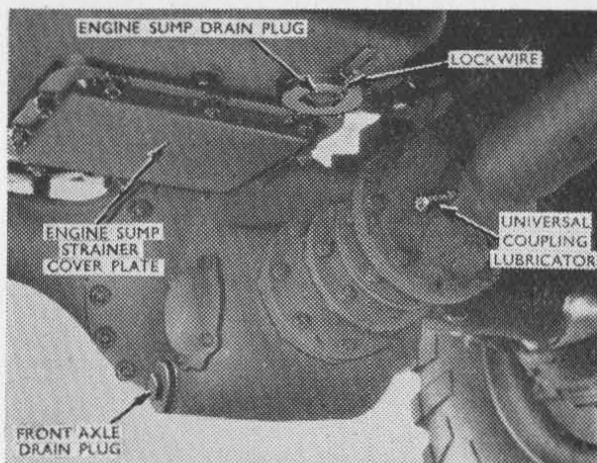

Fig. 16. Engine Sump and Front Axle Casing Joints.
- (a) Sump strainer cover plate (Fig. 16).